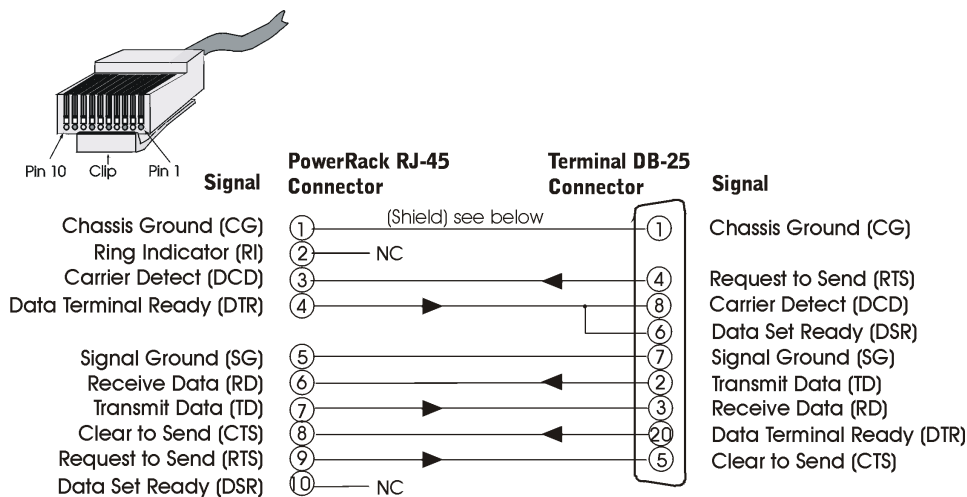

Figure 3-4: Cable Pin-outs for Terminals w/DTR Flow Control
1. The cable shown in Figure 3-4 assumes that the terminal or other device uses its RTS signal for flow control. Many terminals use DTR instead. If this is the case, you will need to connect the terminal's DTR to the RAS 2000's CTS, and configure the port for CTS flow control.